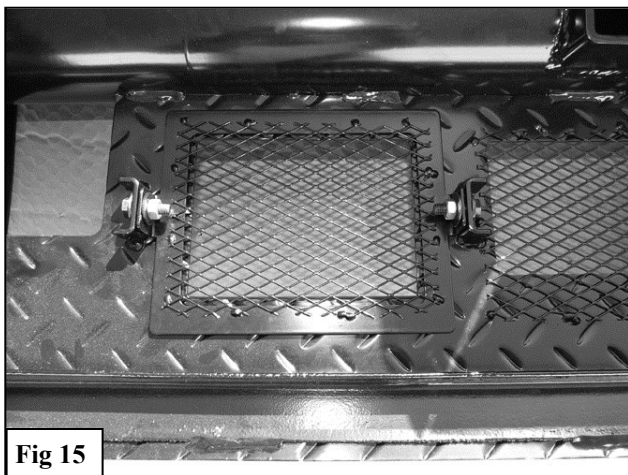

Fig 15
- Attach the ACC Removable Window to the back of the bumper using (2) 6mm x 25mm Hex Bolts, (4) 6mm Flat Washers, (2) 6mm Lock Washers and (2) 6mm Hex Nuts, (**Figure 15**).